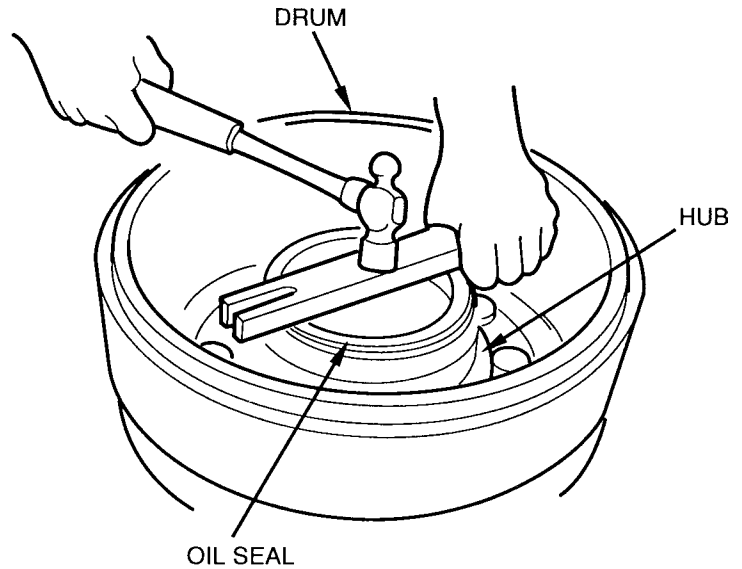

Figure 9 Installing Oil Seal
4. Position wheel bearing oil seal so that the lip faces inwards. Tap the seal flush with the edge of the hub face. (See Figure 9). Coat the lip of the seal with grease and make sure the seal spring is in position.